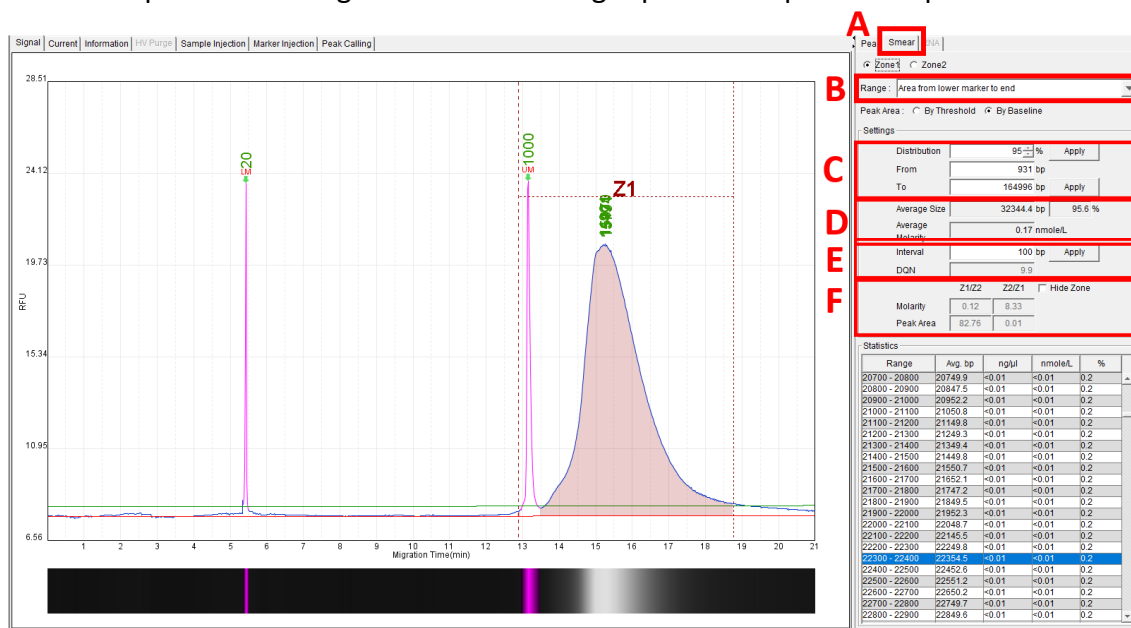

Figure 4-4 The result display of genomic DNA sample
Step 1. Click the **Smear** tab (Figure 4-4 A). (Alternatively, you can select **Smear** from the Toolbar and click the **Smear** tab after setting.)
Step 2. Select the interested range, **Area between lower marker and upper marker** or **Area from lower marker to end** for analysis (Figure 4-4 B).
Step 3. Enter the percentage of the target distribution (e.g. 50%) and click **Apply**. User can also assign the region by entering the size numbers, and click **Apply** (Figure 4-4 C), then the detail information of the assigned
region, including the **Average size** and concentration of this region (**nmole/L**) shows at Figure 4-4 D
Step 4. Modify the **Interval** of the size range if necessary, and then click **Apply** to apply the setting (Figure 4-4 E). This will help you get more details of the distribution (Shows on the Statistics below).
Step 5. In addition, you can edit the other Zone by click the **Zone2** and the editing rules are the same as mentioned above. This step will help you get the ratios between Zone1 and Zone2, which help you get more information about these two Zones (Figure 4-4 F).